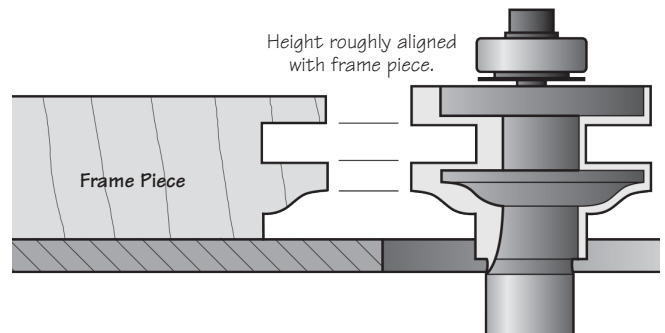

Figure 3: Set-up for coping bit.
4. Install the coping bit in the router. Adjust the bit height using a routed frame piece as a guide, as shown in **Figure 3**.